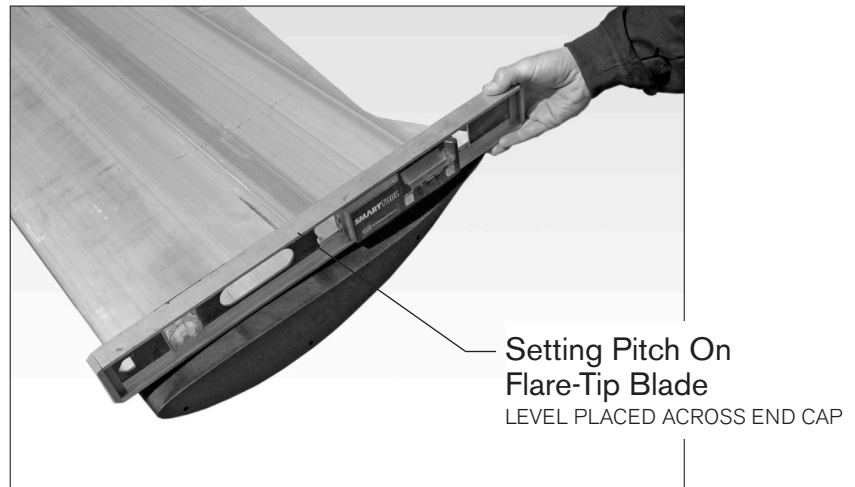
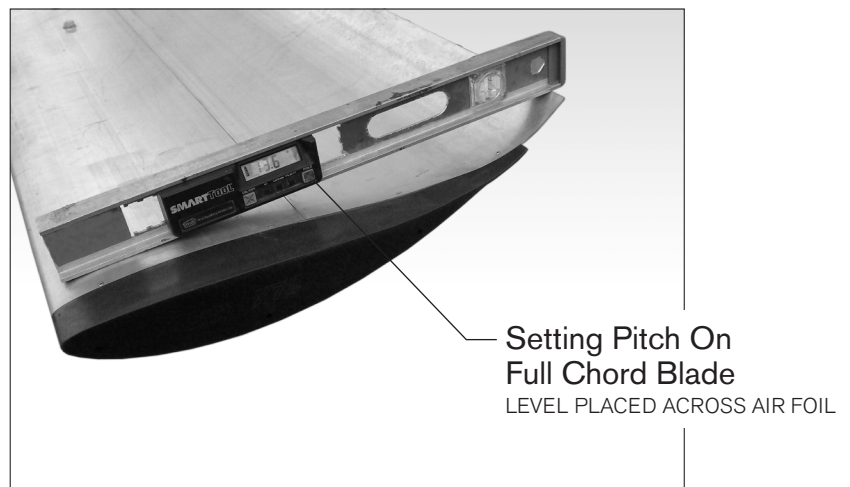

Figure 3
Figure 4
- 1 Select a position on the fan circumference and rotate each blade to this common location when setting or checking blade pitch. Support the blade tip to maintain a common rotation plane while setting the fan pitch. The pitch is set by placing a protractor on top of a straight edge or with a digital level that extends across the blade near the tip. For flare-tip blades, the pitch is measured across the end cap as shown in **Figure 3**. For full chord blades, the pitch is measured across the aluminum airfoil about 1" inboard of the blade end cap as shown in **Figure 4**.